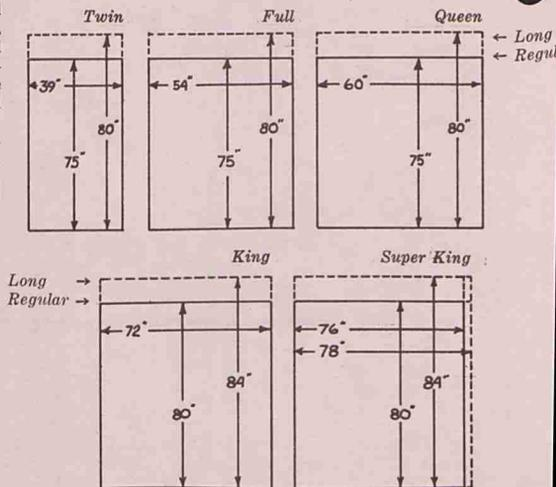

Figure 1
Make up the bed with sheets, blankets and pillows to take measurements. Measure each bed individually to determine length and width for finished spreads. These measurements will help you estimate the amount of fabric you will need and will help you cut and use the fabric to best advantage. Although standard beds can vary an inch or two, the following chart shows accepted measurements for standard mattress sizes. (Figure 1)
5. Make a paper pattern, following diagram in Fig. 1. Cut on heavy lines.